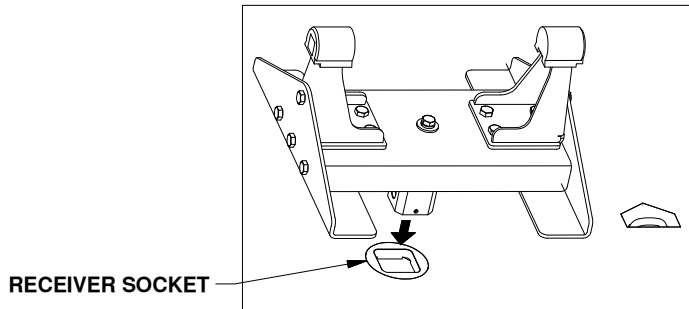

Figure C2: View over truck bed.
3. Carefully lift and position the Companion base into the receiver hitch socket in the back of the truck bed as shown in Figure C2.